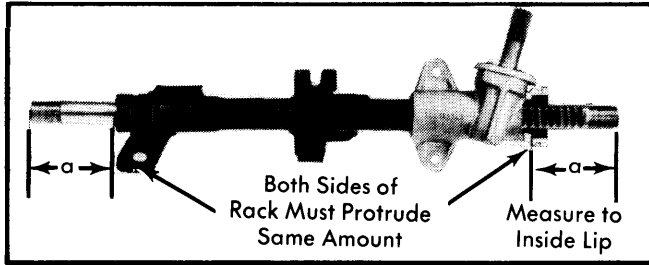

Fig. 2 Centering Rack in Steering Gear Housing
1) Center rack in housing so rack protrudes an equal amount from each end of housing (see Fig. 2).